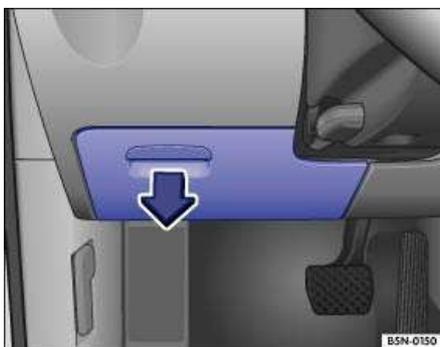

Fig. 68 Driver's side storage compartment with coin holder.
- To open, pull in the direction shown (arrow) ⇒ Fig. 68.